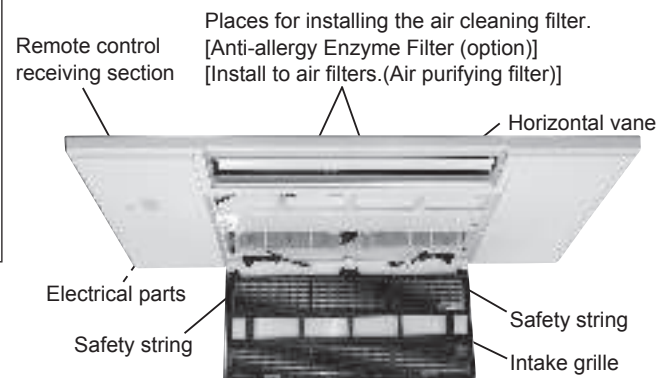

Figure 2
- (2) Hold the intake grille and pull it down to open (Figure 2).